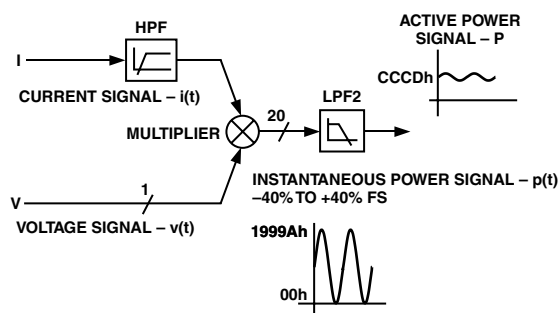

Figure 34. Active Power Signal Processing
Figure 34 shows the signal processing chain for the active power calculation in the ADE7759. As explained, the active power is calculated by low pass filtering the instantaneous power signal.
As mentioned in the last section, the discrete time sample period (T) for the accumulation register is $1.1 \mu\text{s}$ ($4/\text{CLKIN}$). With full-scale sinusoidal signals on the analog inputs, digital integrator turned off, and the active power gain register set to 000h, the average word value from LPF2 is CCCD—see Figures 34 and 35. The maximum value that can be stored in the active energy register before it overflows is 2^{39} or